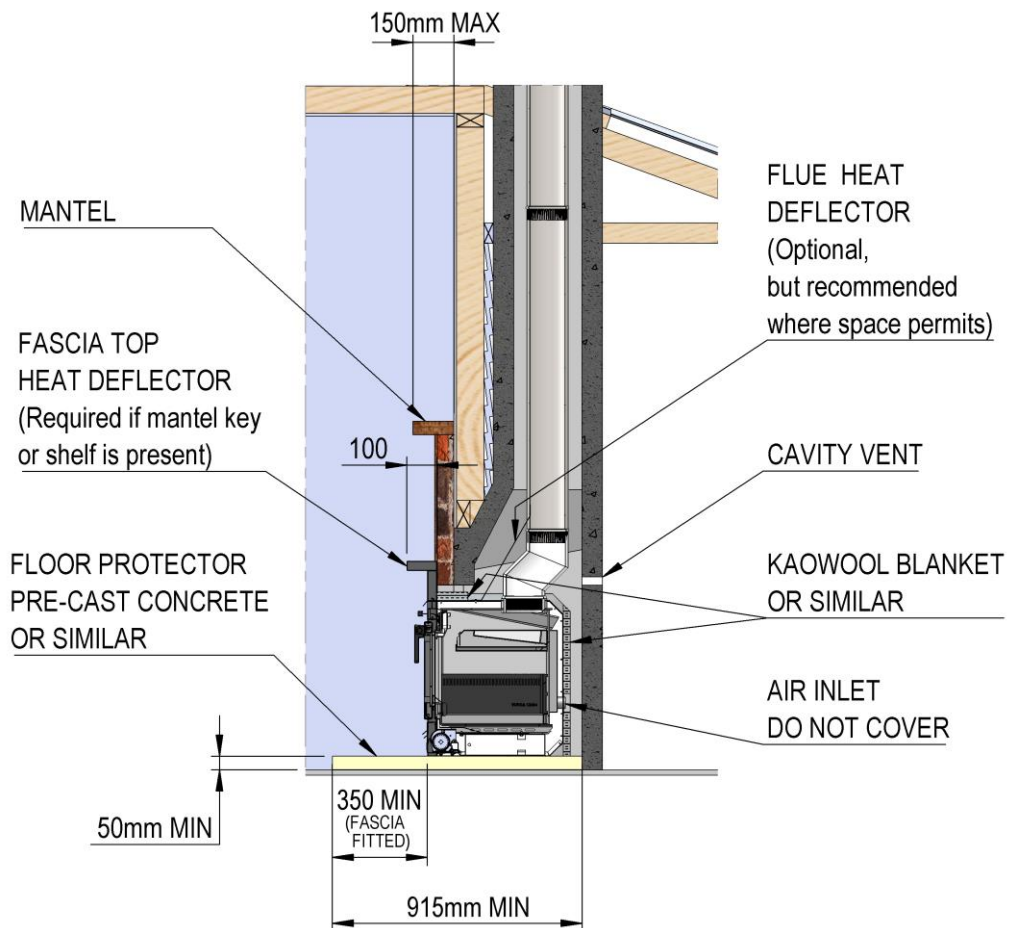

Fig. 6
- N1.** The floor protector extension from the unit (Fig. 6) can be reduced if the unit is elevated. (Table 2)